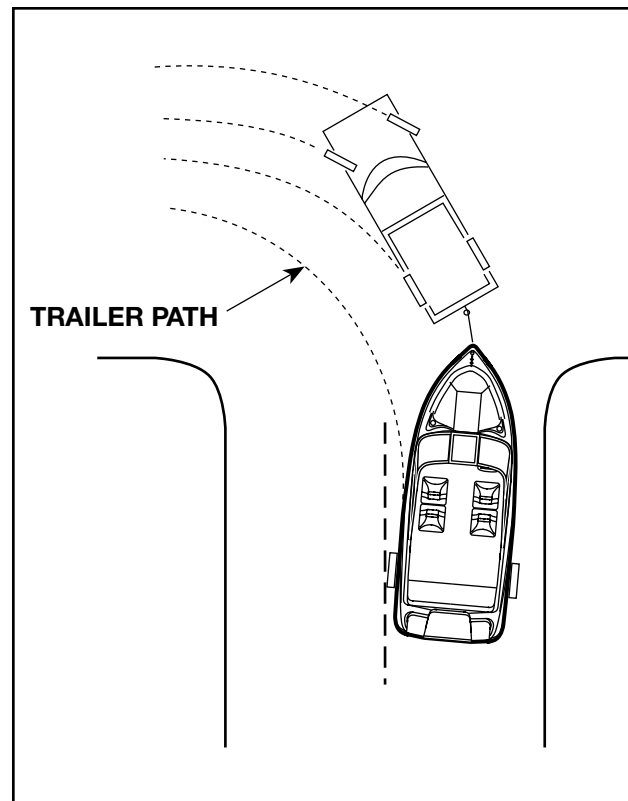

FIGURE 6.2 TRAILER PATH
6. Be aware that a turn for the trailer will be wider than a turn for the tow vehicle (**Figure 6.2**). When making a turn, be careful that your trailer does not strike another vehicle or object.